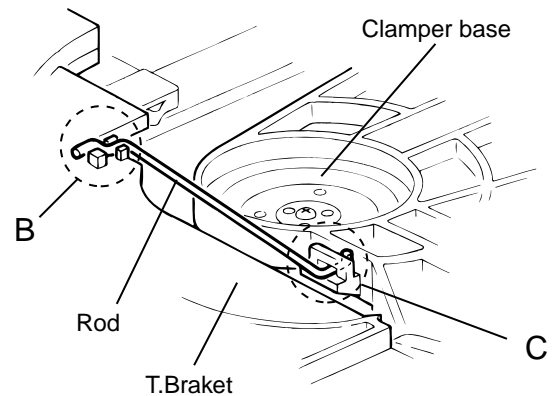

Fig.2
■ Removing the DVD tray assembly (See Fig.2~4)
6. From the clamber base section "C", remove both of the edges fixing the rod (See Fig.2 and 3).